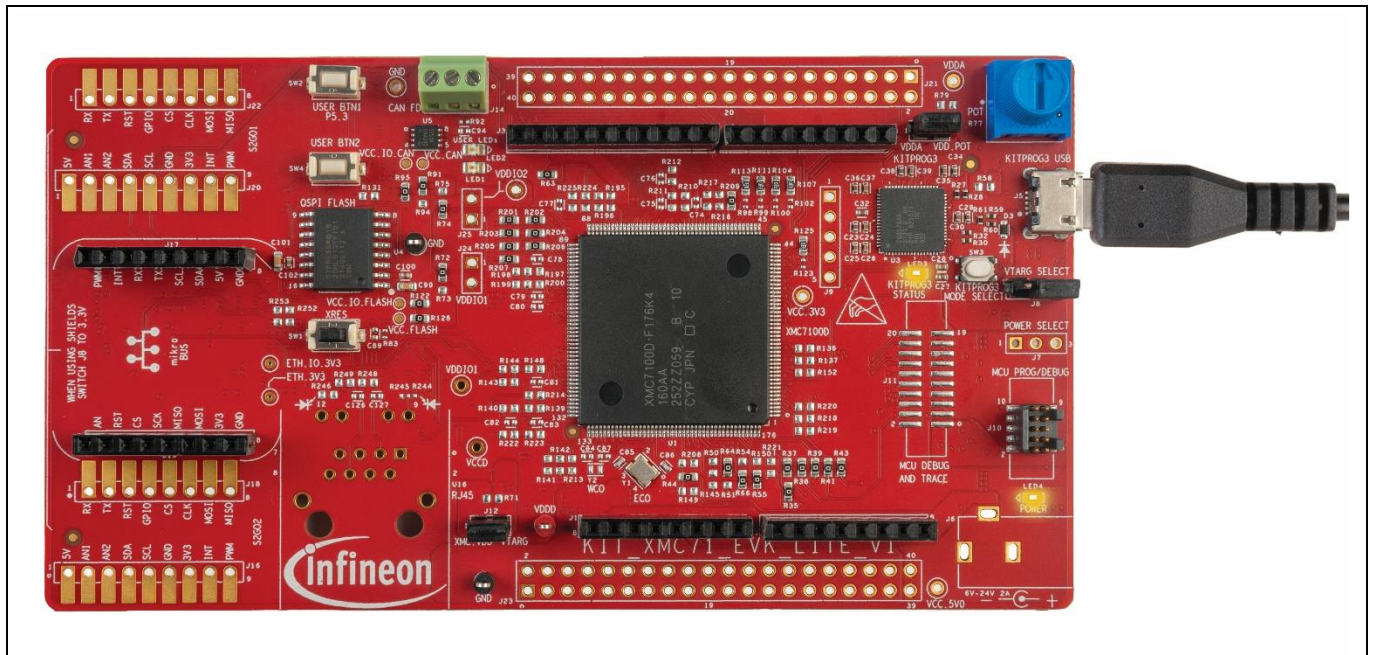

Figure 8 Connect USB cable to USB connector on the board
1. Connect the board to the PC using the provided USB cable through the KitProg3 USB connector, see Figure 8. If you are connecting it to the PC for the first time, it enumerates as a USB composite device.